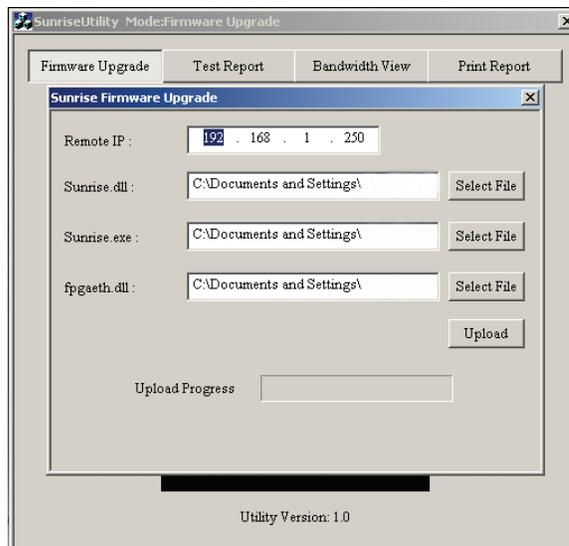

Figure 18 Firmware Upgrade Window
9. Select Firmware Upgrade. The window in Figure 18 is displayed: